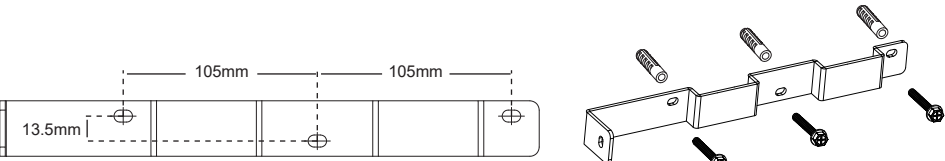

Fig. 2.1 Wall-mounting bracket
- Select the mounting height of the support and mark the mounting holes according to Figure 2.1. For brick walls, the holes must be drilled for expansion bolts.